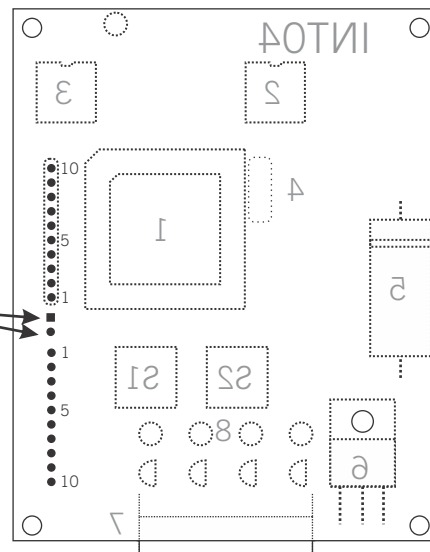

FIGURE 10 - PD DIMMER INT04 DETAIL
Since this procedure involves adding a jumper to the **INT04** board, it is preferable to have it performed by the factory, at time of order. However, any qualified electronic technician can perform the procedure in the field when necessary. **Figure 10** shows the location for installing the non-dim (ND) jumper.